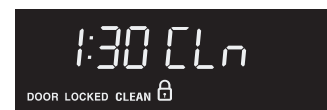

Fig. 2
3. Press . The "**DOOR LOCKED**" icon will flash; "**CLEAN**", Cooktop Lockout icon and the letters "**CLn**" will remain on in the display (Fig. 2).